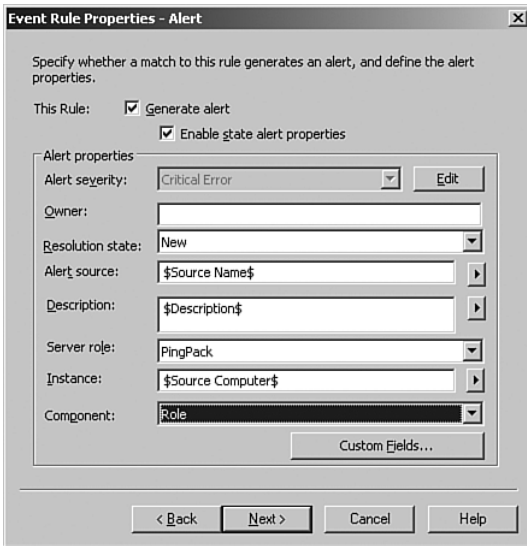

FIGURE 20.26    Event Rule properties – Alert screen.
7. On the Event Rule Properties – Alert page choose PingPack for the server role (which we created in the “State View Roles” section), specify the instance of \$Source Computer\$, and select the Role component as shown in Figure 20.26.